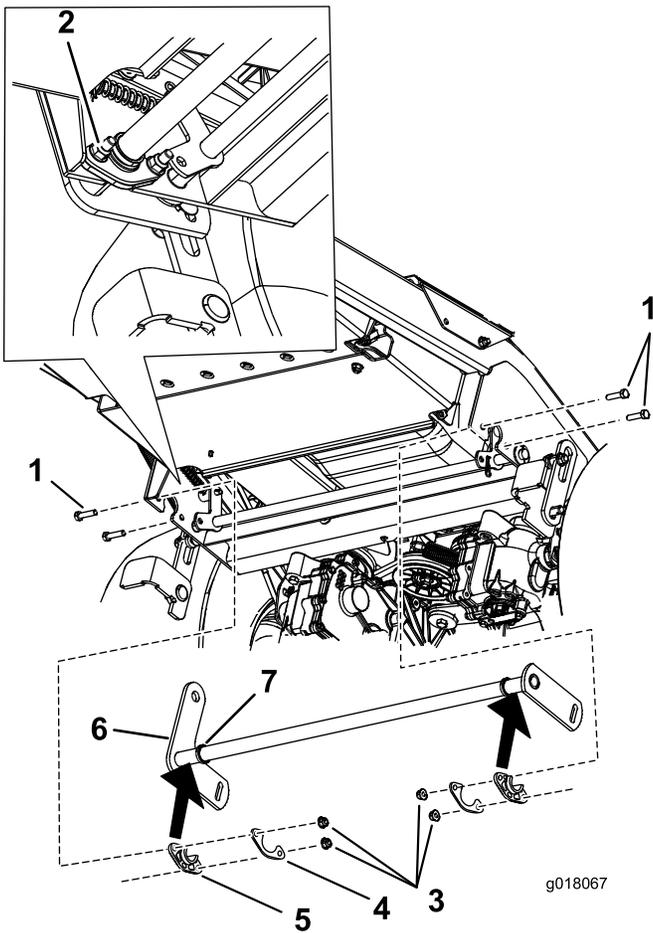

Figure 2
- Remove the two nuts and bolts at each existing flange bushing (Figure 2).